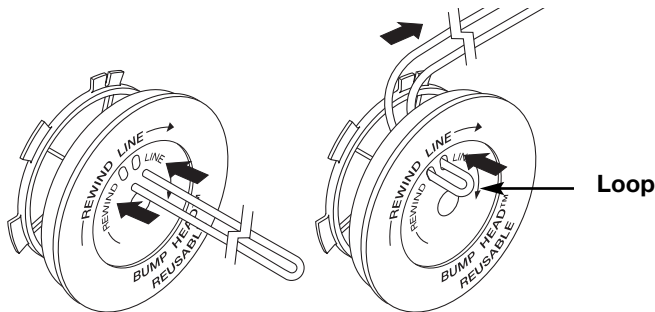

Fig. 19
6. Take approximately 20 feet (6 m) of new trimming line, loop it into two equal lengths. Insert each end of the line through one of the two holes in the inner reel (Fig. 19). Pull the line through the inner reel so that the loop is as small as possible.